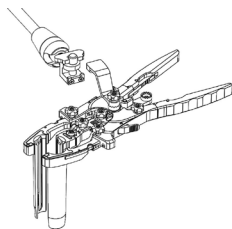

Figure 12
- If using the **Arm Interface (ML-0902)**, after ensuring that the **Arm Interface** has been secured onto the **Retractor frame**, bring the **Articulating Arm, Rack Clamp, Large (ML-0063)** to the proximal end of the **Arm Interface** and secure the **Arm Rack Clamp** to the **Arm Interface**. (Figure 12)